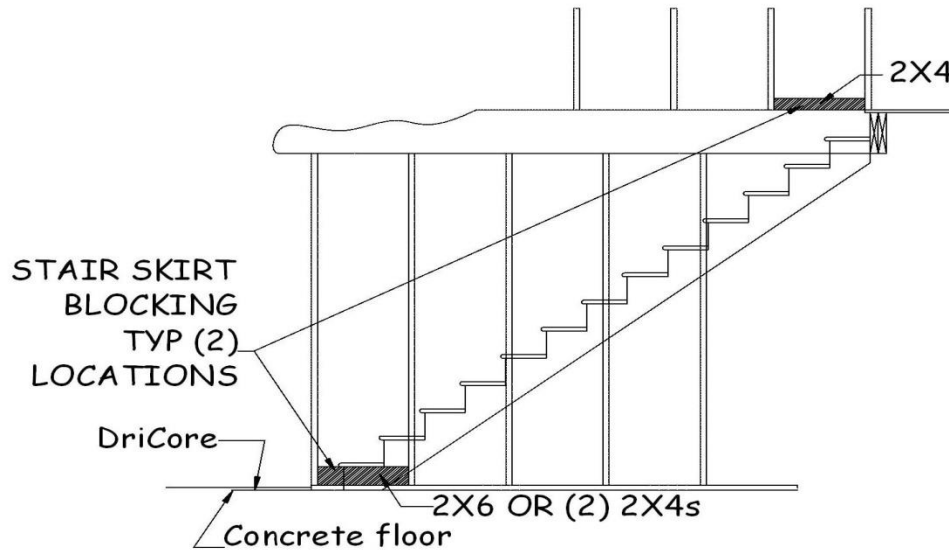

Figure 10-5. Blocking for Stairskirt.
1. Use a piece of 2x6 or two pieces of 2x4 at the bottom of the stairs and one piece of 2x4 at the top of the stairs to install blocking for the stairskirt (see Figure 10-5.). At the bottom of the stairs, block from the end of the stringer to at least 5" past that point. At the top of the stairs, block where the $\frac{3}{4}$ " subfloor ends at the stair, at least 3" both above and beyond the subfloor.